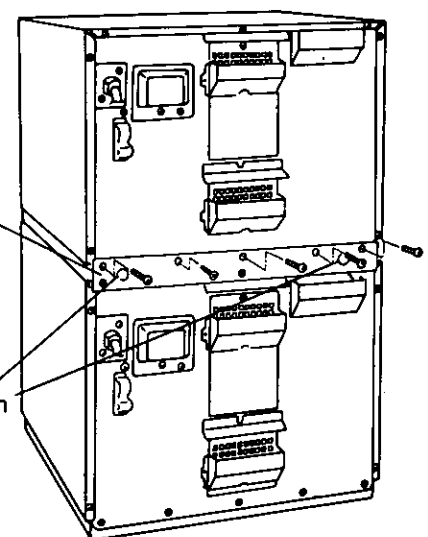

Fig. 3.
- a) The entire oven's bottom skirt is supported by the shelf (oven may hang over an open shelf or front shelf). (Fig. 3 & 4)
4. Carefully place the top unit on the base so as to align the five screw holes of the top unit with those of the Joint Plate. Then attach and tighten five screws. See Fig. 3.